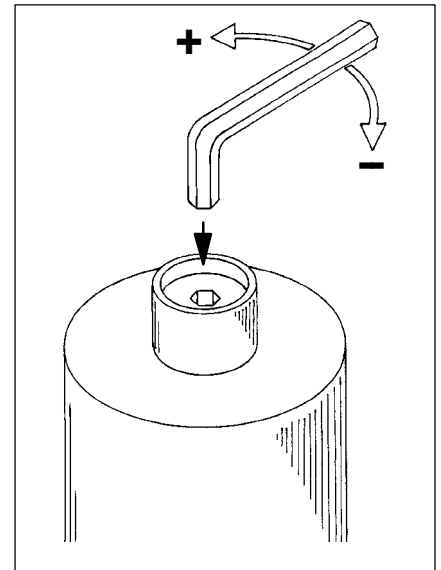

Fig. 1
**VE.... B series** (see fig 1.)